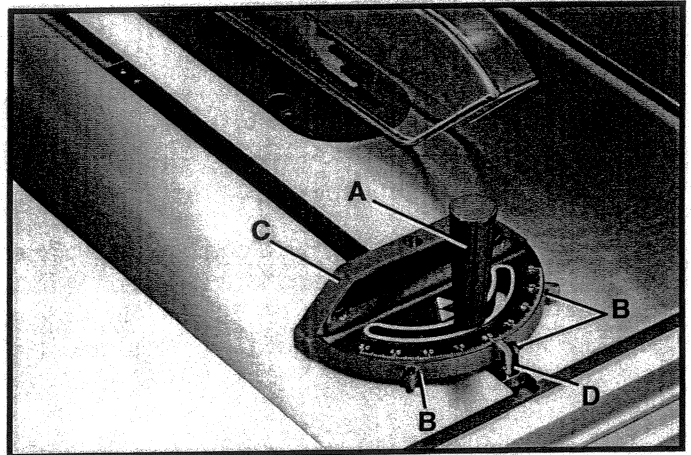

Fig. 74
The miter gage is equipped with adjustable index stops at 90 degrees and 45 degrees right and left. Adjustment to the index stops can be made by tightening or loosening the three adjusting screws (B) Fig. 74.
To rotate the miter gage, loosen lock knob (A) Fig. 74, and move the body of the miter gage (C), to the desired angle.
The miter gage body will stop at 90 degrees and 45 degrees both right and left. To rotate the miter gage body past these points, the stop link (D) Fig. 74, must be moved up and out of the way.